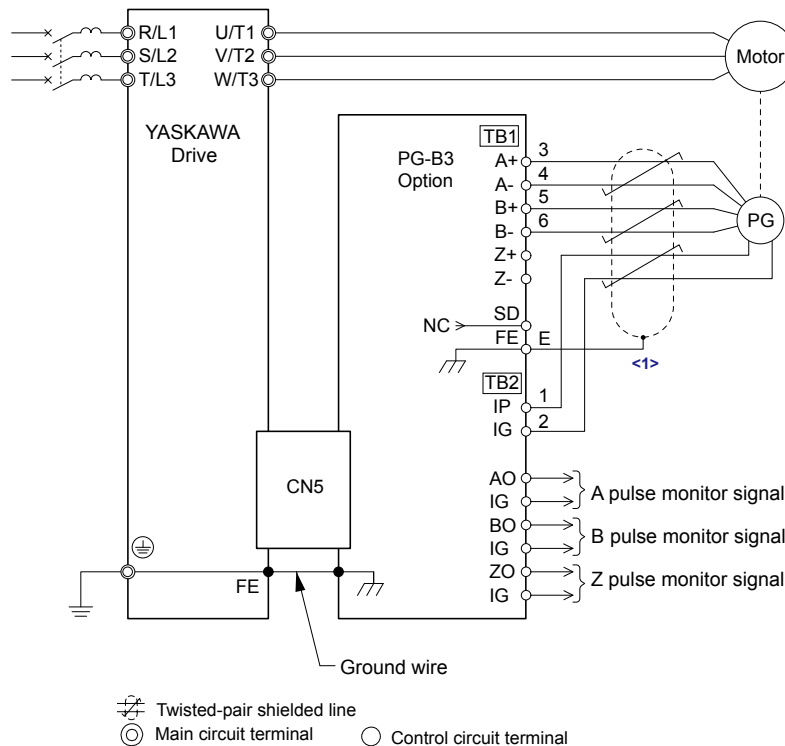
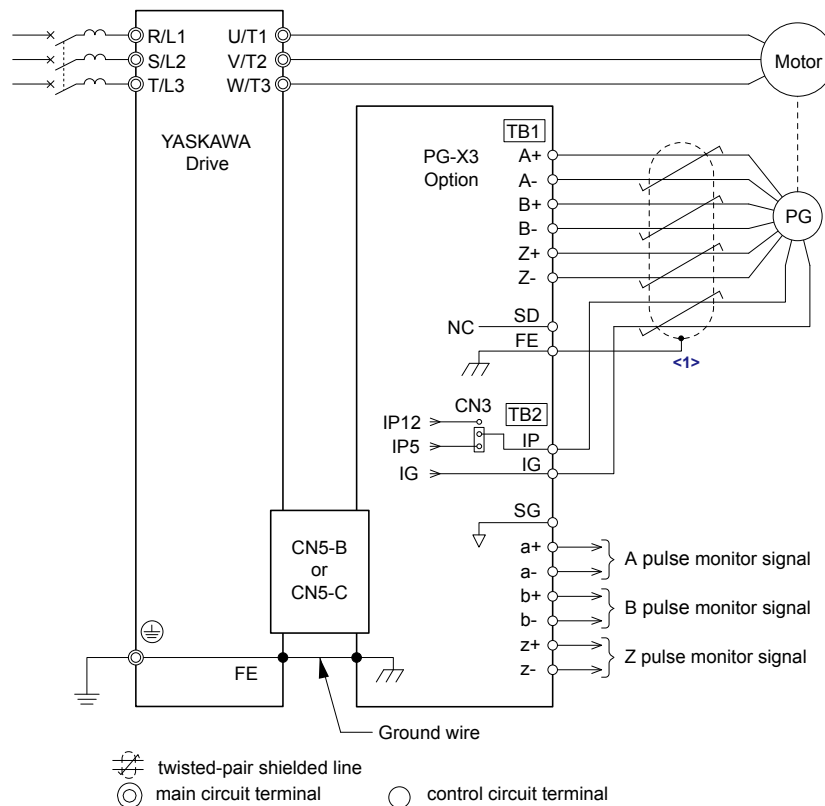

Figure 7.7 PG-B3 Option and Encoder Connection Diagram
Figure 7.11 PG-X3 Option and Encoder Connection Diagram
5. Wire the motor PG encoder to the terminal block on the option. Refer to Figure 7.7 and Figure 7.11 for wiring instructions.